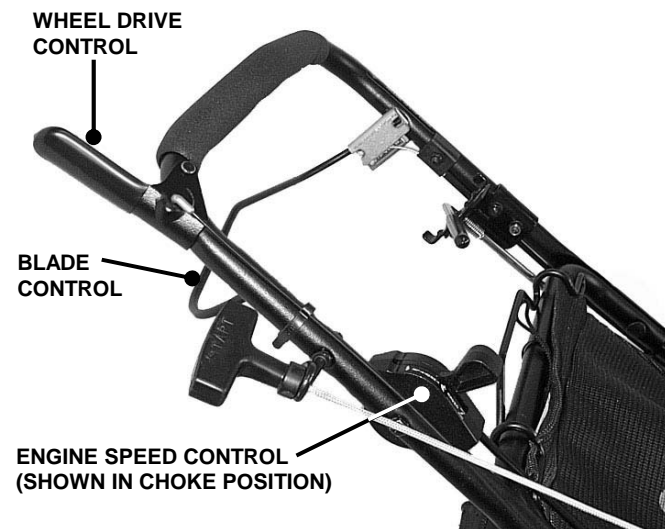
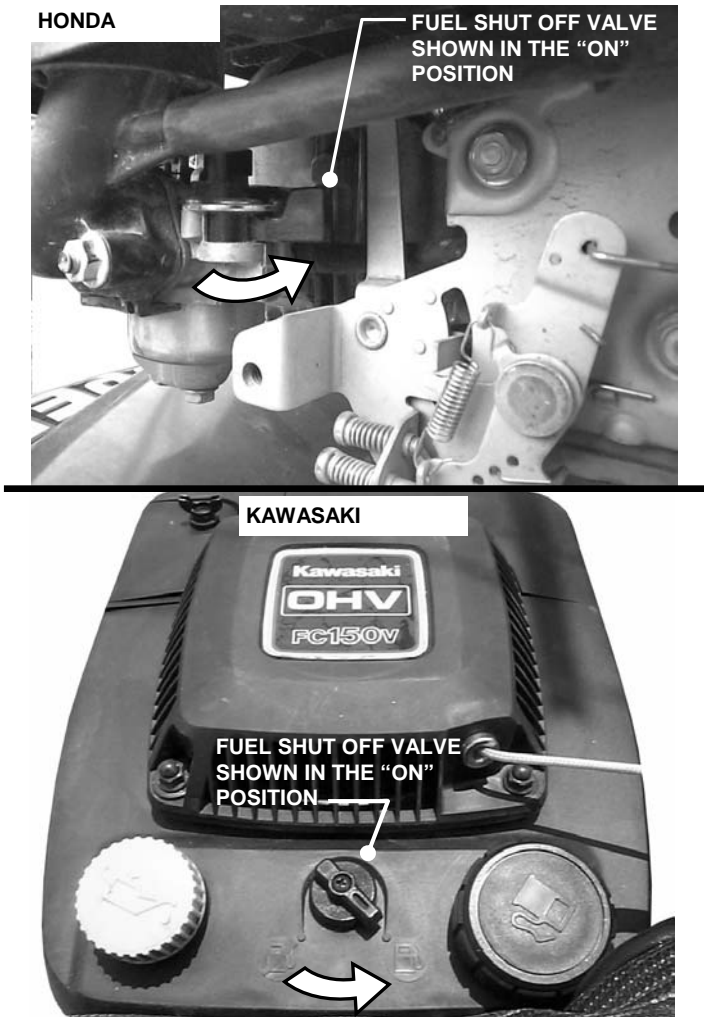

FIGURE 2.3
FIGURE 2.4
1. Turn fuel valve to on. See Figure 2.4. Move engine speed control to the "choke" position. The choke should not be required to restart a hot engine. See Figure 2.3.
- 4.** After engine starts, move engine speed control away from the choke position to the "Fast" (Rabbit) position. See Figure 2.3.
1. Move fuel shut off valve to the "ON" position. See Figure 2.4.